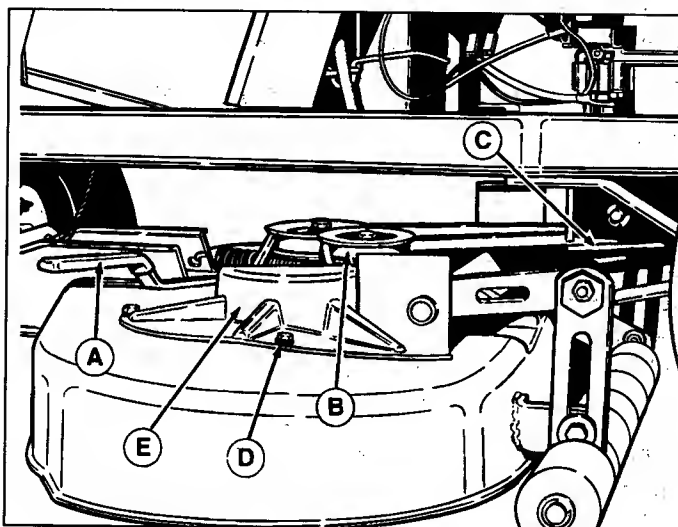

Figure 36. Mower Belt Replacement - 34"
2. If mower is not removed, place mower in lowest cutting position. Push idler pulley arm (A, figure 36) away from you to relieve belt tension. Remove belt from idler pulley (B) and PTO pulley (C).
3. Remove the three capscrews (D, figure 36) securing the left-hand arbor cover.
5. Install mower if it was removed, and install belt to PTO pulley (C, figure 36). Push idler arm and install belt around idler pulley.